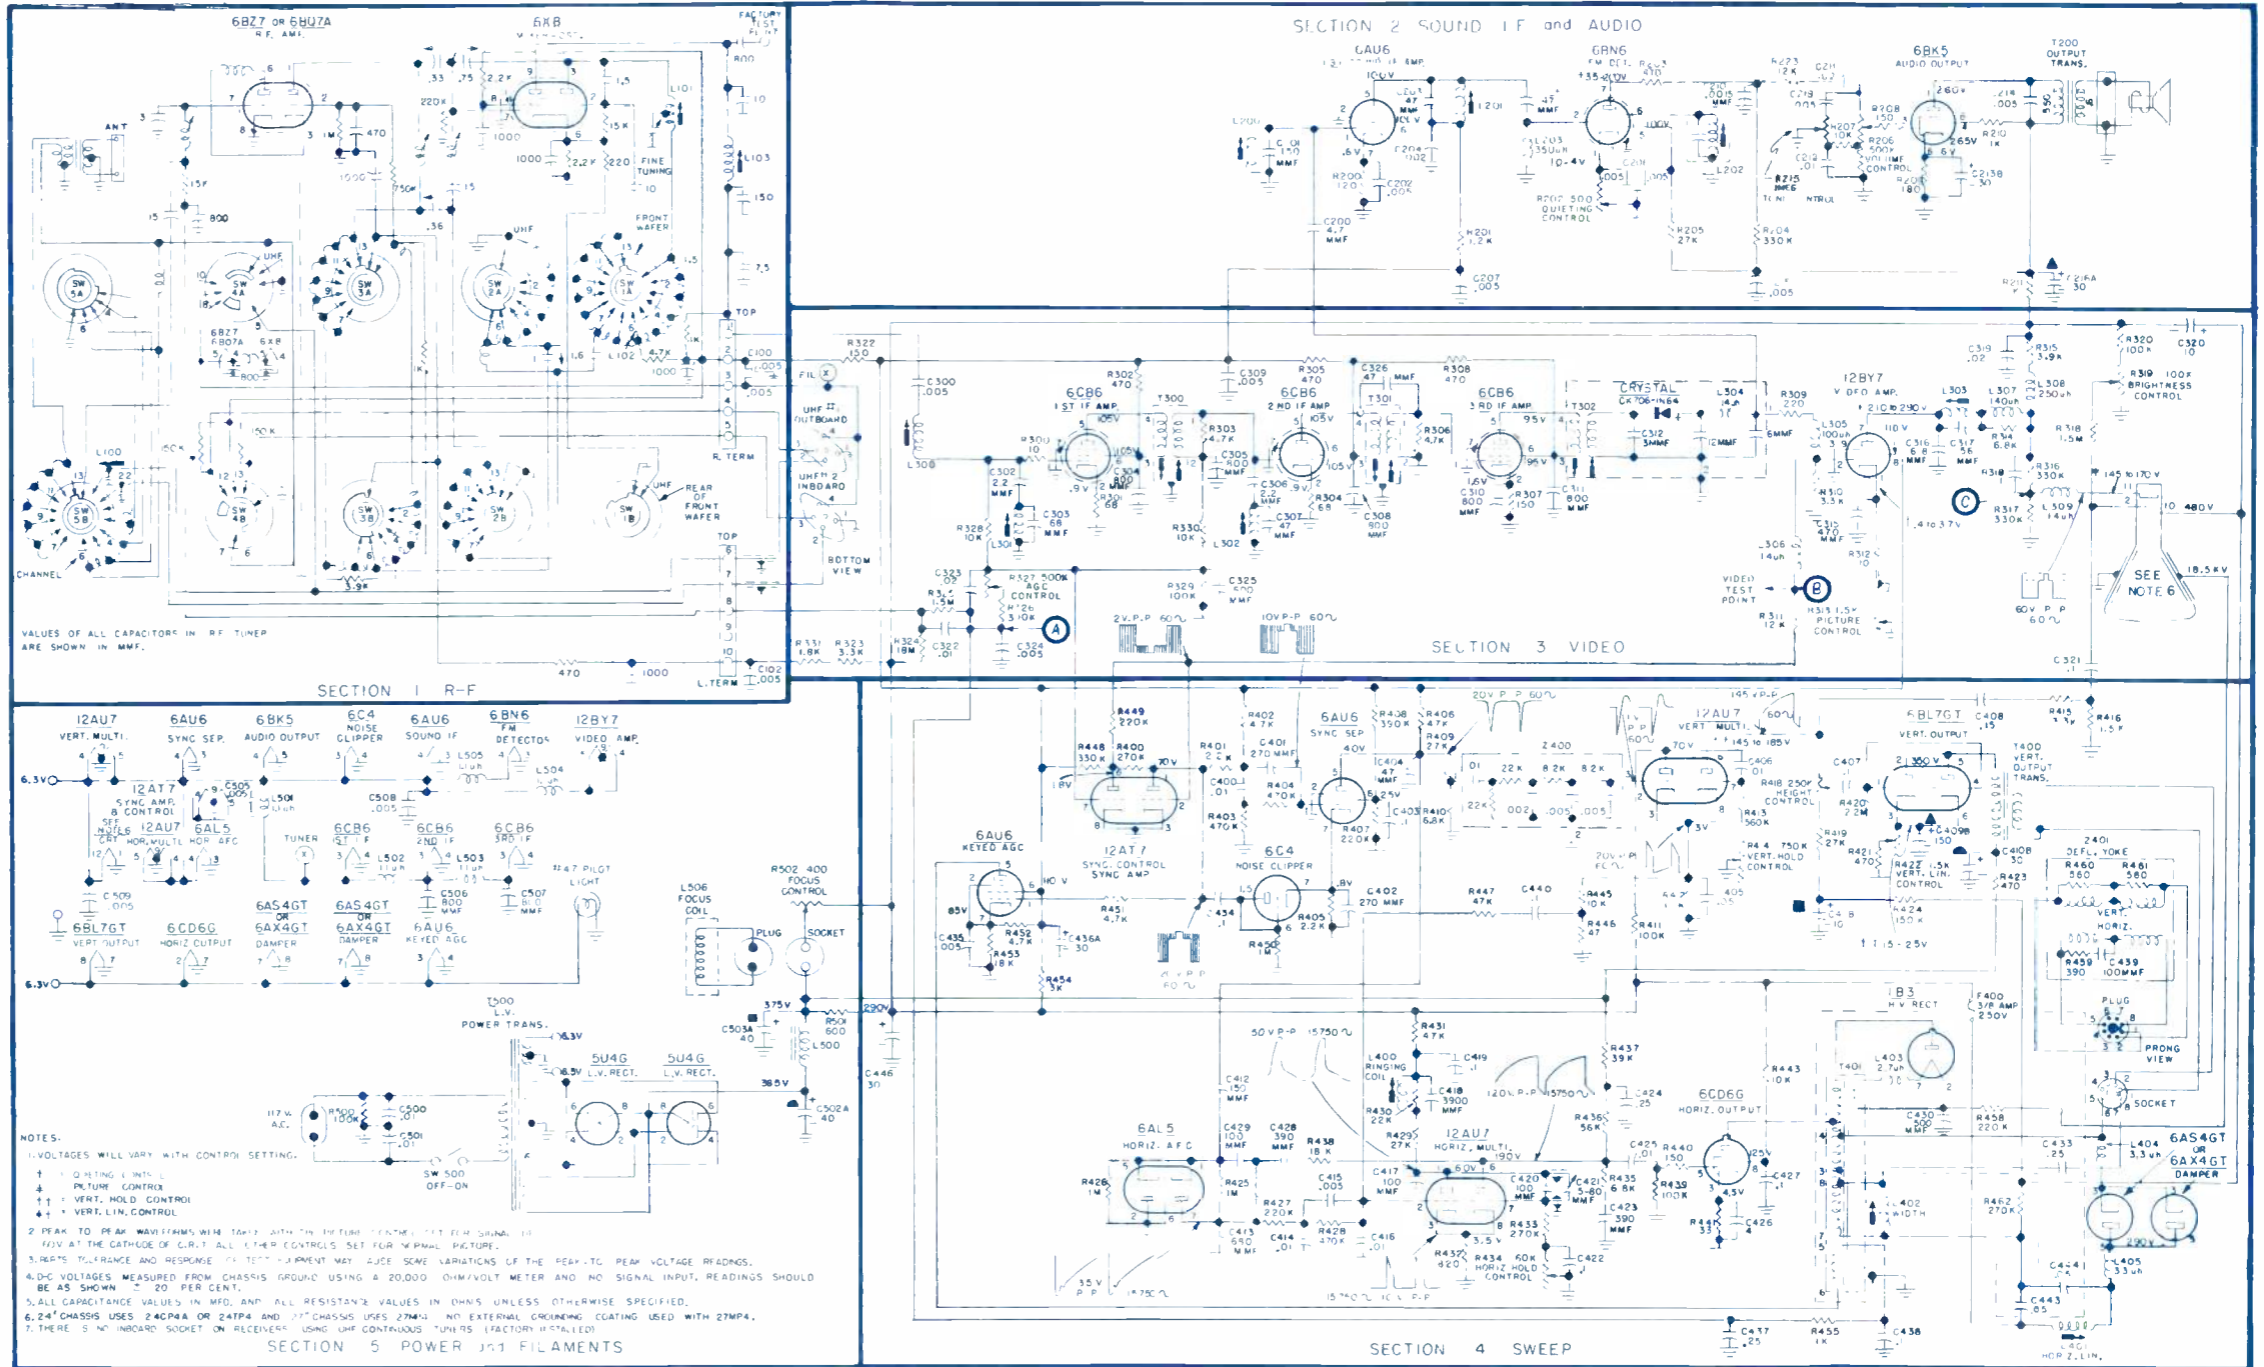
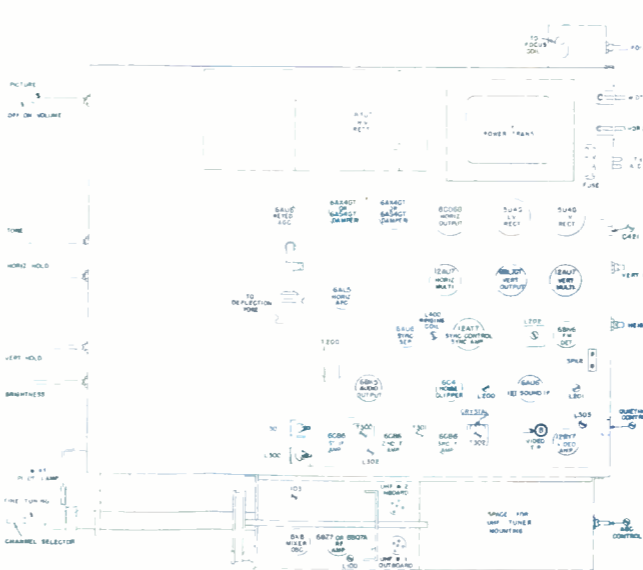

Fig. 5 - Oscilloscope Connections
Fig. 3 - Top View of Chassis
2. Connect the vertical input of the oscilloscope to the video test terminal (point "B" on Fig. 3) through the decoupling network shown in Fig. 5. The oscilloscope horizontal input should be connected to the sweep (synchronizing) output from the sweep generator THROUGH WELL SHIELDED LEADS. Turn the sweep control on the oscilloscope to the "x" or "off" position.
2. Apply a 4.5 mc. FM signal (deviation approximately 7.5 kc.) to the video test point (B on Fig. 3).
Connect the oscilloscope to the video test terminal, point "B" on Fig. 3, through the decoupling network shown in Fig. 5.
Connect the signal generator to the video test terminal (point "B" on Fig. 3) through a .001 mfd. capacitor.